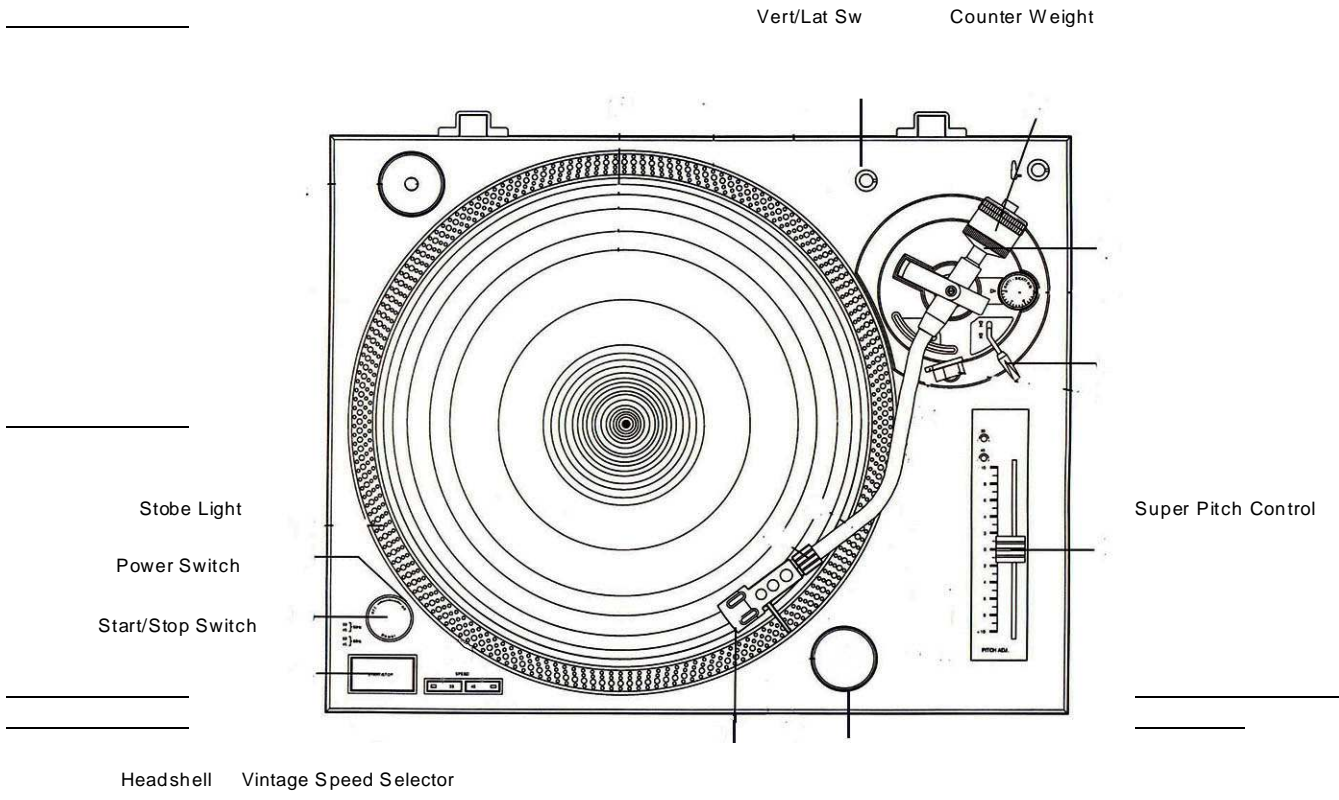

Fig. 1
- 2) Set platter on turntable spindle; through large slot in platter, loop drive belt around motor pulley (see Fig. 1). Belt is on the inside drive rim of platter.